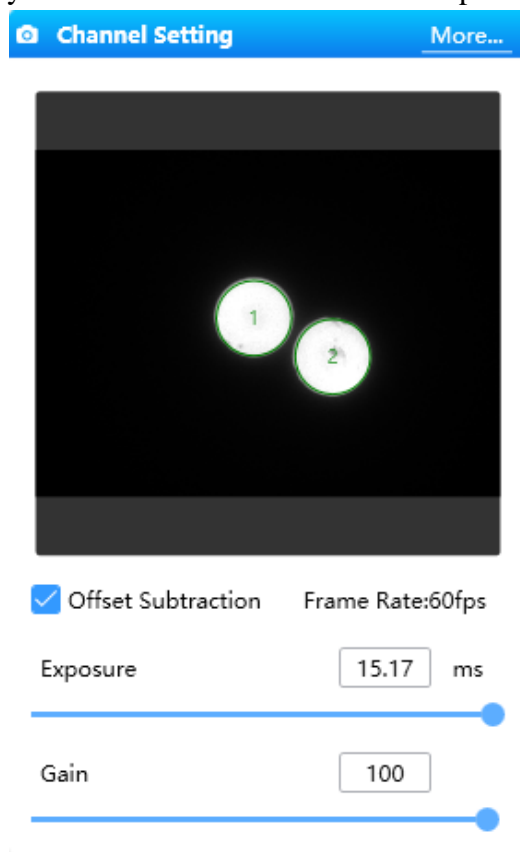
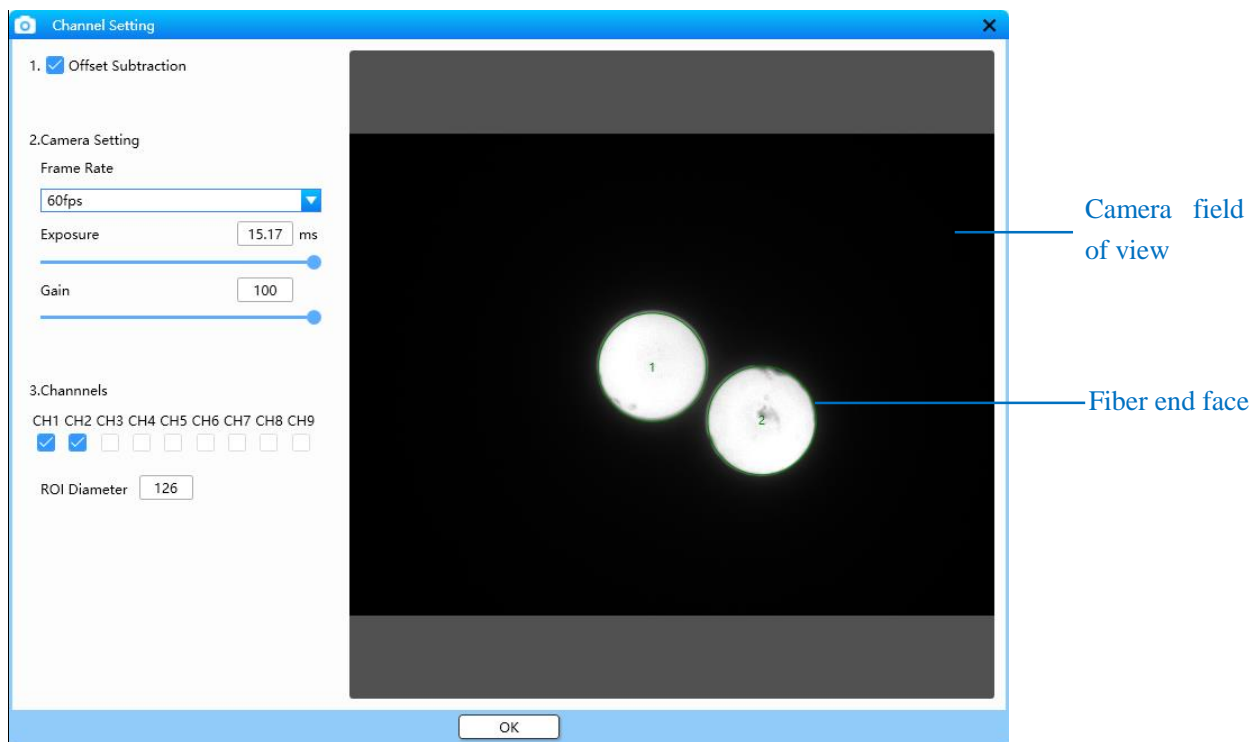

Figure 6-5
Figure 6-6
Click [More] in the upper right corner of Figure 6-5 to enter the channel setting window, as shown in Figure 6-6. Click  to select the camera frame rate. The higher the frame rate, the larger the amount of data collected. 60-100fps is usually recommended.
- 2) If the fiber end face is not clear, the gain in Figure 6-6 can be increased.